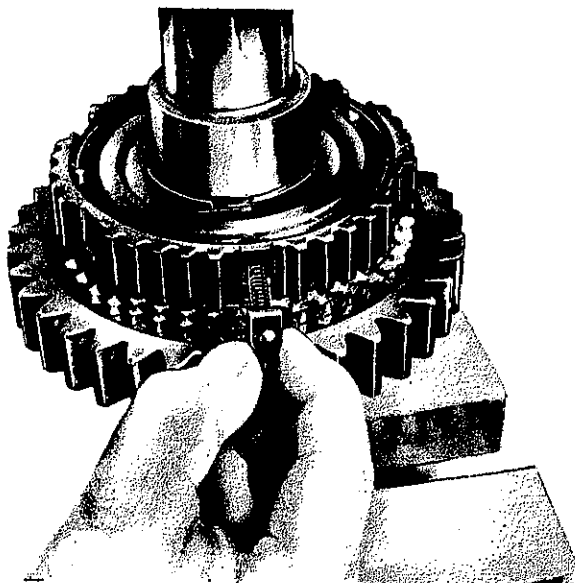

Fig. 27
7. Place glued parts with compression springs first into bores of synchronizer (Fig. 27) and attach with grease.